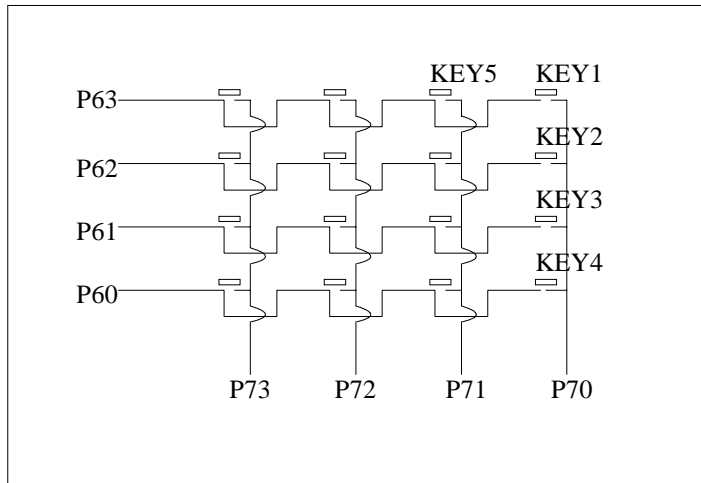

Fig.10. Key scan circuit
- Fig. 10 depicts the circuit diagram of TCC/WDT.